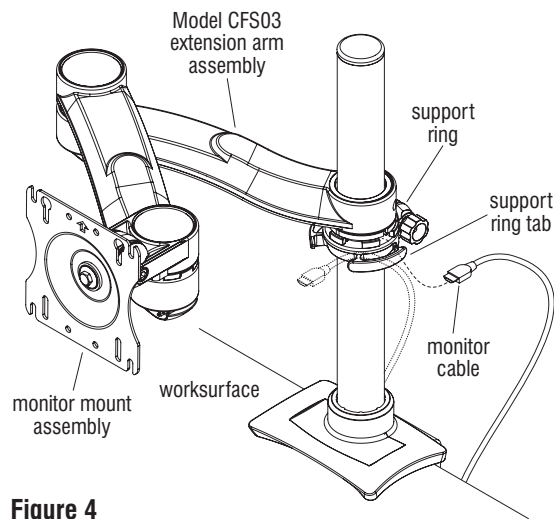
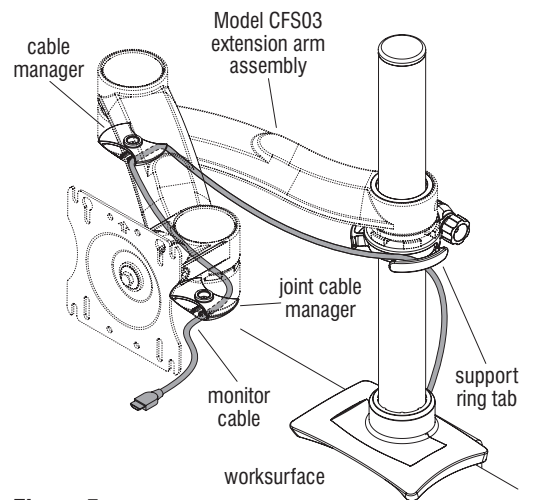

Figure 4
Figure 5
8. Insert monitor cables through support ring tabs (Figure 4). If monitor cables will be routed through optional height-adjust arm cable, proceed to "Height-Adjust Arm Cable Manager" instructions below, otherwise feed the monitor cables through joint cable managers located on the underside of extension arm assembly (Figure 5).